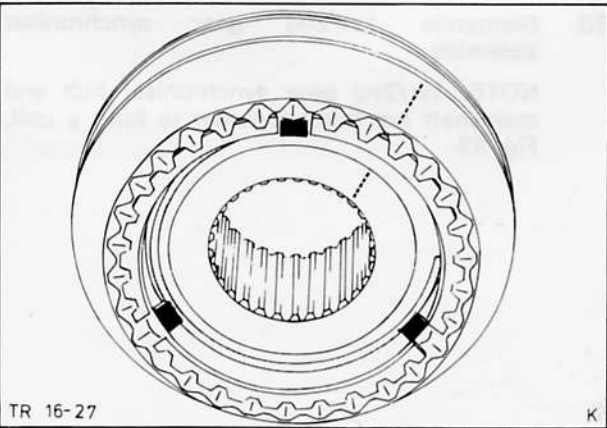

Fig. 36. Synchroniser hub reassembled
24. Assemble 3rd/4th gear synchroniser hub: insert blocker bars and fit springs so that they are staggered with their opposite ends located in the same blocker bar, Fig. 36.